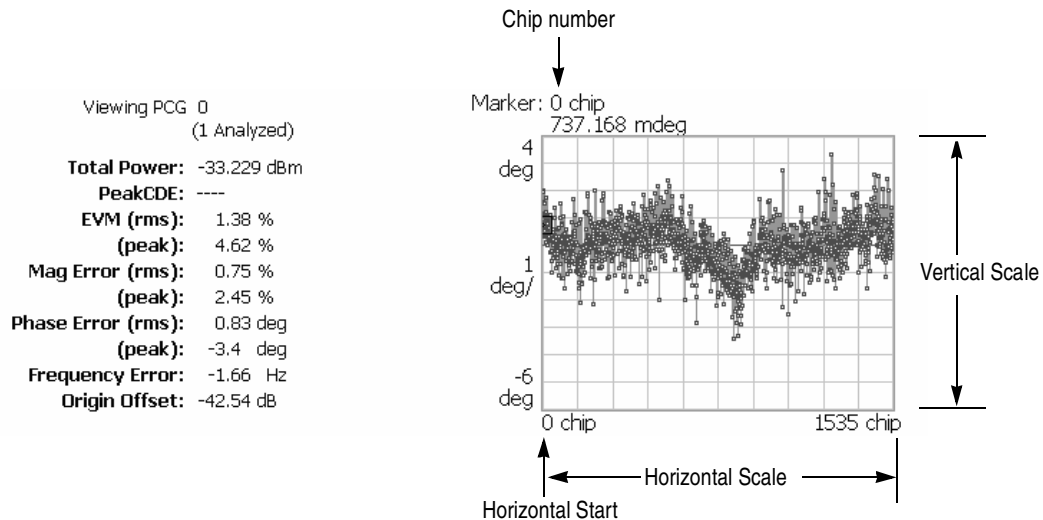

**Figure 2-23: MagErr display-reverse link**
**MagErr Display.** When you select Mainview Content from the VIEW DEFINE menu and then select MagErr from the Mainview Content submenu, changes of magnitude error over time are displayed for each chip or symbol (see Figure 2-23).